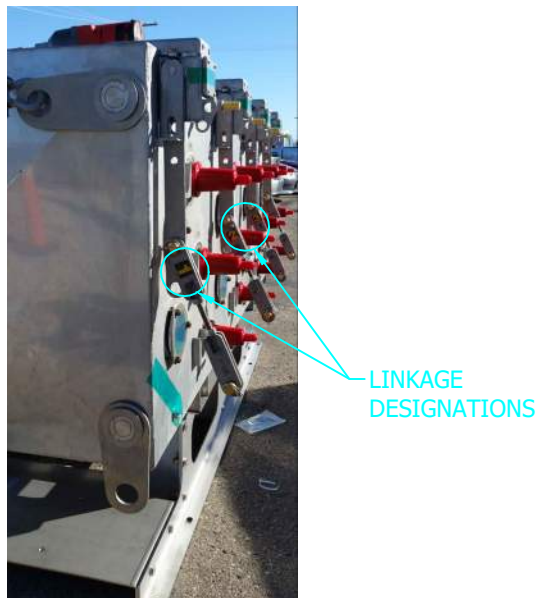

FIGURE 41 Ⓔ
- Ⓔ MOTOR OPERATORS AND LINKAGES ARE MATED TO THE SWITCH AND IDENTIFIED AT THE MANUFACTURING PLANT. MOUNT MOTOR OPERATORS WITH CORRESPONDING WAYS AFTER THE CABLE HAS BEEN LANDED AND PRIOR TO MOUNTING THE ENCLOSURE. SEE FIGURE 41 AND 42.